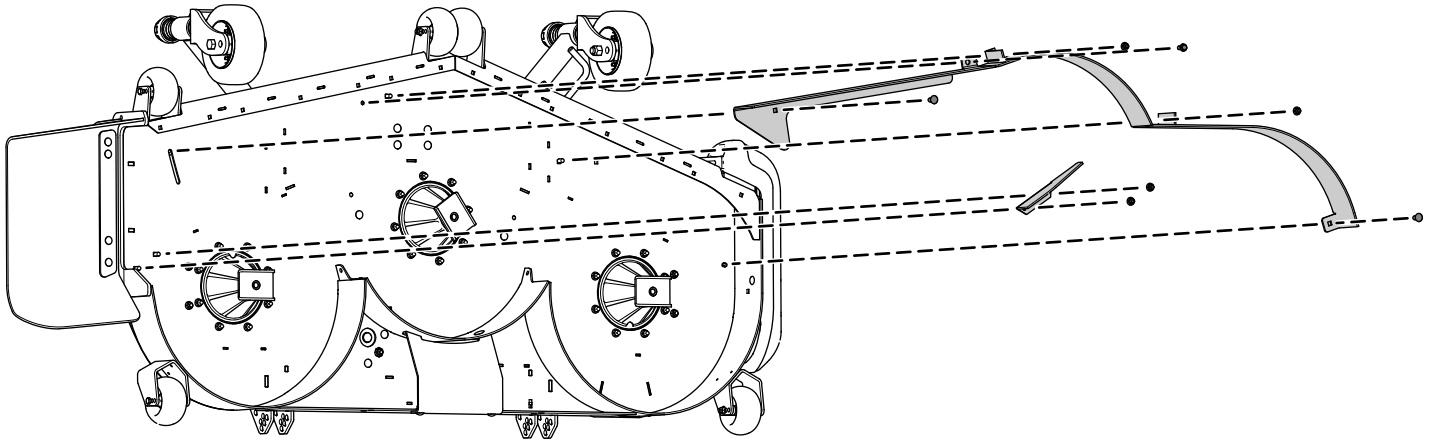

Figure 2
1. Remove the 2 flange nuts that secure the baffles in place (Figure 2).
2. Remove the 2 bolts and 2 nuts from the adjustable flow baffle (Figure 2).
3. Remove the 3 bolts and 3 nuts that secure the baffles in place (Figure 2).